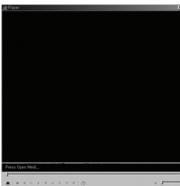

Figure 2. DVR Player
2. Click DVR(Exclusive) Player icon  , and then you can see the below player. (Figure2. DVR Player)